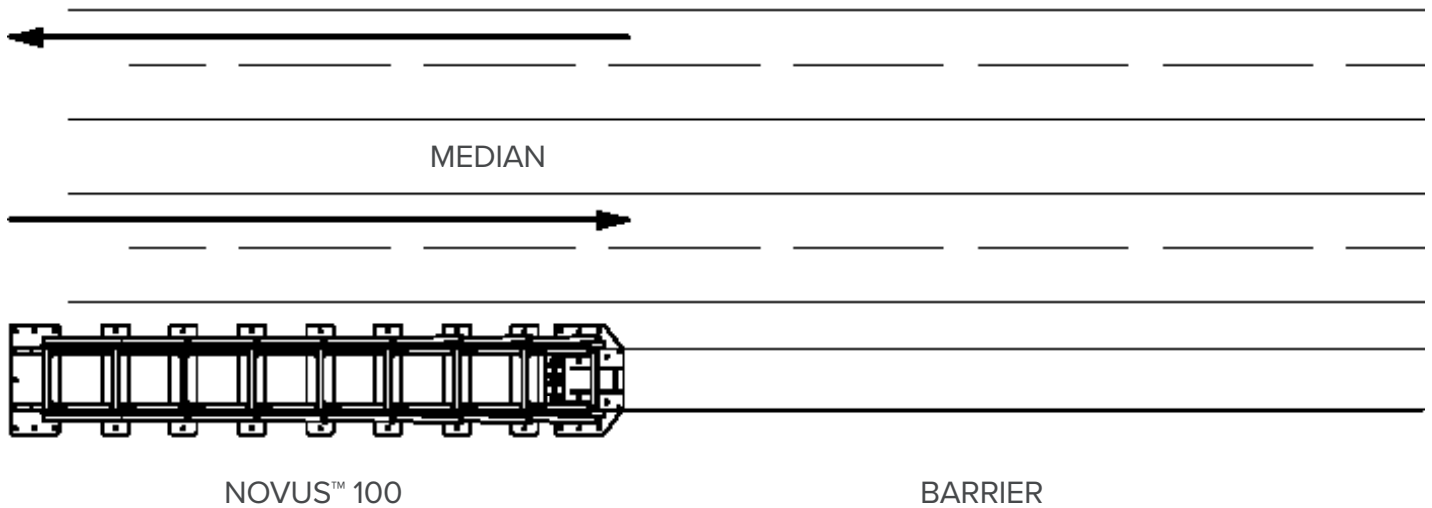

Figure 2 - Unidirectional Traffic Flow - One Side Requires No Transition
Assembly of a NOVUS™ 100 system and its backup connections of transitions depends on the traffic pattern and the road feature at the particular location. Unidirectional traffic (one side or both) requires no transition (Figures 2 and 3), only a connection to a backup structure. Call Customer Service at (888) 323-6374 or your local Valtir representative with questions regarding this and other types of assembly.